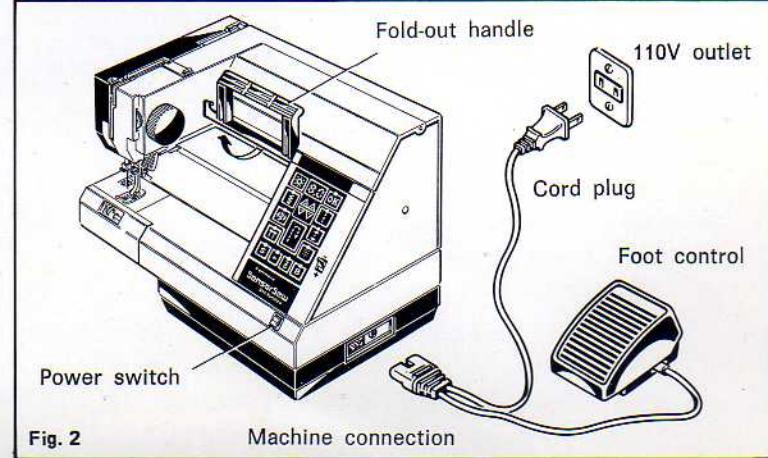

Fig. 2
Insert the foot control plug into the machine connection (14) as illustrated. Connect the cord plug into any 110-120 volt wall outlet as shown in Fig. 2.